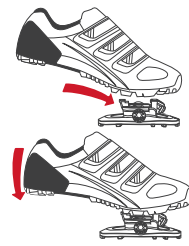

Figure 4. Push down and forward to engage
- To enter the pedals, engage the front of the cleat into the front of the pedal (Figure 4) and press down with the ball of your foot. You should hear an audible click telling you that the pedal has engaged the cleat.